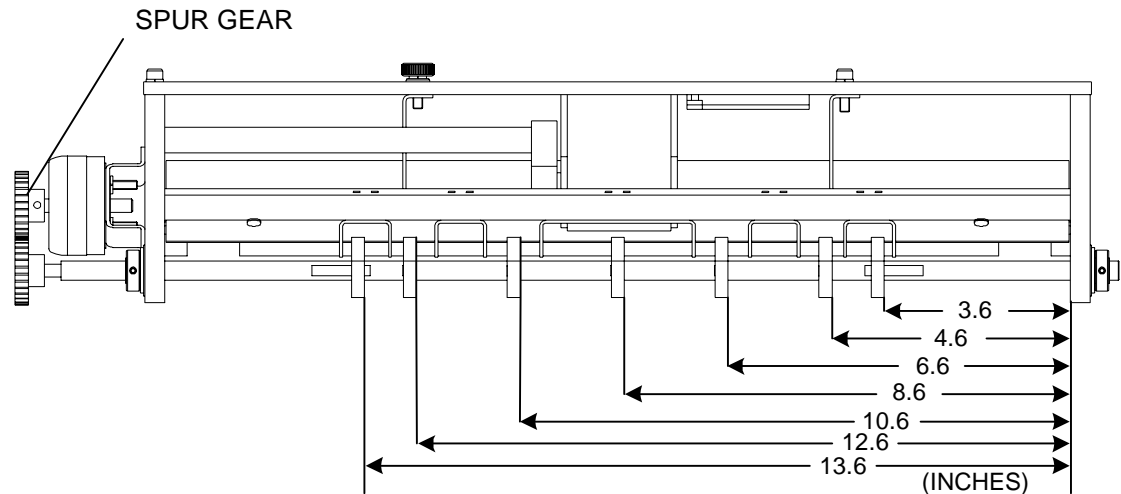

Figure 2.
- Check the distance between each Gate Finger (Figure 2).